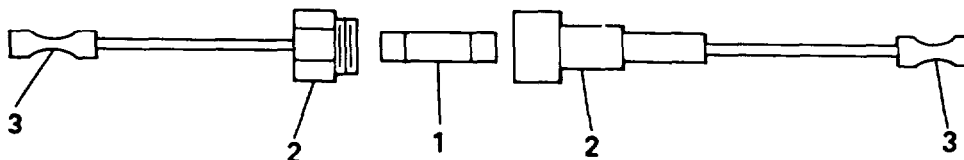

Figure 2-10.1. In-Line Fuse Installation
- d. Cut black wire on load side of GROUND FAULT CIRCUIT INTERRUPTER (8).
- e. Strip wires on in-line fuse holder (2, FIGURE 2-10.1) and install butt splices (3) at each end. Connect ends of black wire to in-line fuse holder butt splices (3).
- f. Install fuse (1) in fuse holder (2).